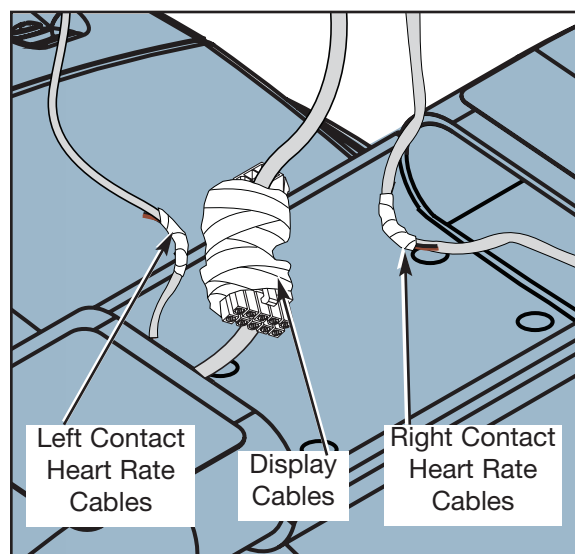

Figure 33
- C. Tape the new pairs of contact heart rate wires to the old wires cut in step 6A. See Figure 33. **NOTE:** One brown wire and one black wire make a pair.
- E. Tape the new 10 pin connector to the old lower display cable. **NOTE:** Be sure to tape the correct ends together. See Figure 33.